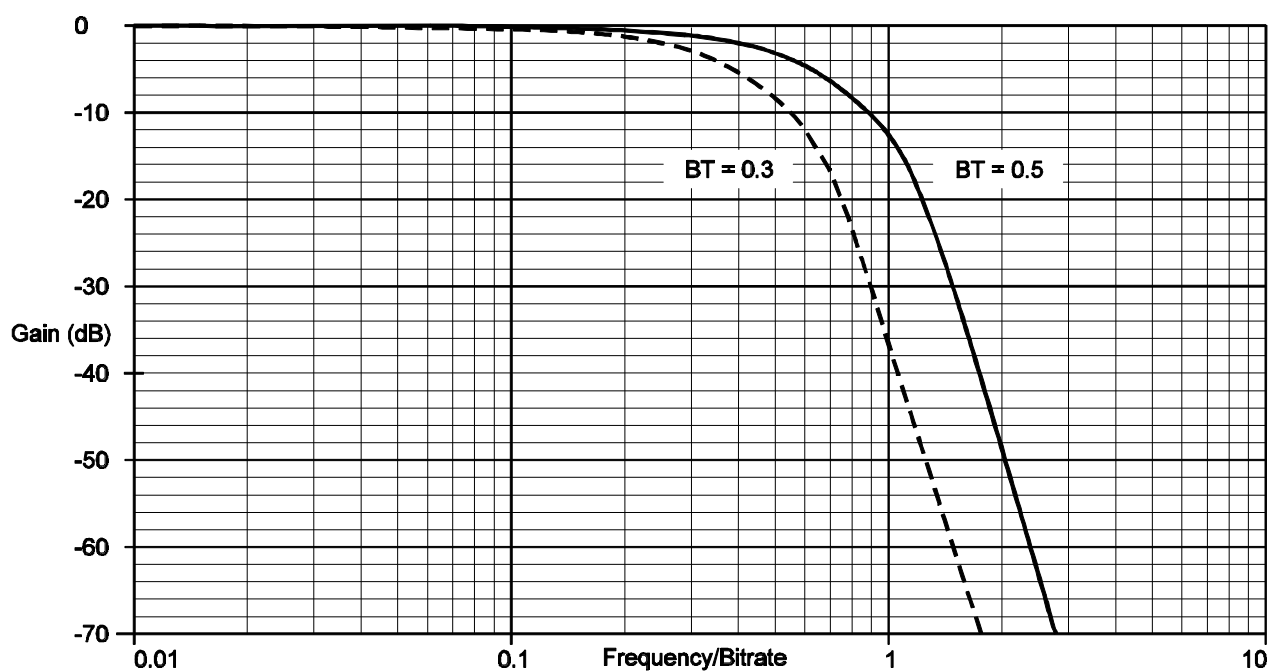

Figure 9: Tx Filter Response
The Tx Filter has a lowpass frequency response, which is approximately gaussian in shape as shown in Figure 9, to minimize amplitude and phase distortion of the binary signal while providing sufficient attenuation of the high frequency-components which would otherwise cause interference into adjacent radio channels. The actual filter bandwidth to be used in any particular application will be determined by the overall system requirements. The attenuation-vs.-frequency response of the transmit filtering provided by the CMX589A has been designed to meet the specifications for most GMSK modem systems that are -3dB bandwidth switchable between 0.3 and 0.5 times the data bit-rate (BT).